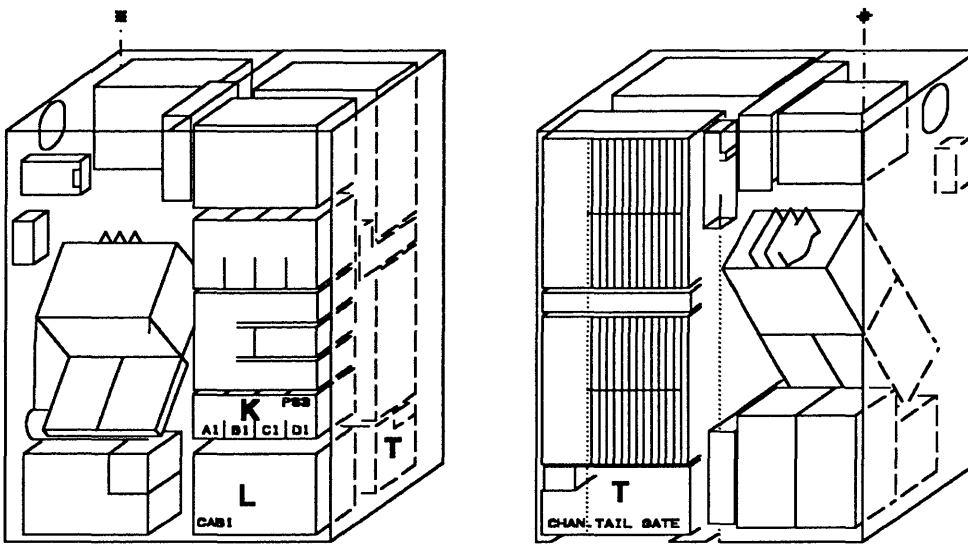
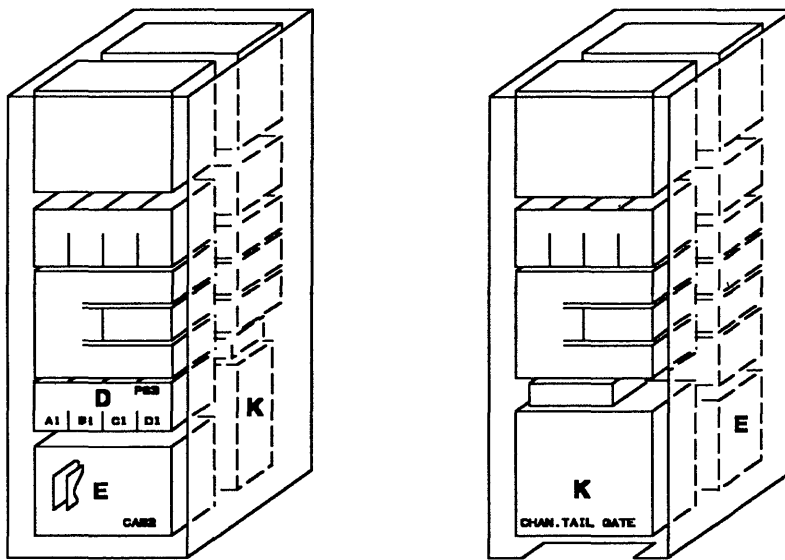
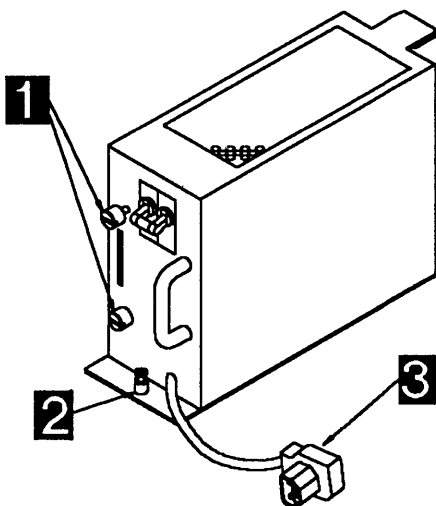

Figure 5-125. Channel Board, Tail Gate and Channel Power in Basic Frame 01
Figure 5-126. Channel Board, Tail Gate and Channel Power in Frame 02
Figure 5-128. Channel Board Power Supply
8. Using Figure 5-125 on page 5-121 or Figure 5-126 on page 5-121 locate Tail Gate 01T-A1 containing the channels 1 to 8, or Tail Gate 02K-A1 containing the channels 9 to 16.
4. Locate using Figure 5-125 on page 5-121 channel board 01L-A1 containing channels 1 to 8, or using Figure 5-126 on page 5-121 the
5. For the channel board you are working on, locate the related tail gate using Figure 5-125 on page 5-121 or Figure 5-126 on page 5-121.
9. The power supplies for channel board 01L-A1 are located at 01K. Refer to Figure 5-125 on page 5-121. The power supplies for channel board 02E-A1 are located at 02D. Refer to Figure 5-126 on page 5-121. Using Figure 5-128, remove the power supply(ies) as follows:
12. The power supplies for channel board 01L-A1 are located at 01K. The power supplies for channel board 02E-A1 are located at 02D. Using the Figure 5-128 on page 5-122, re-install the power supply(ies) as follows: